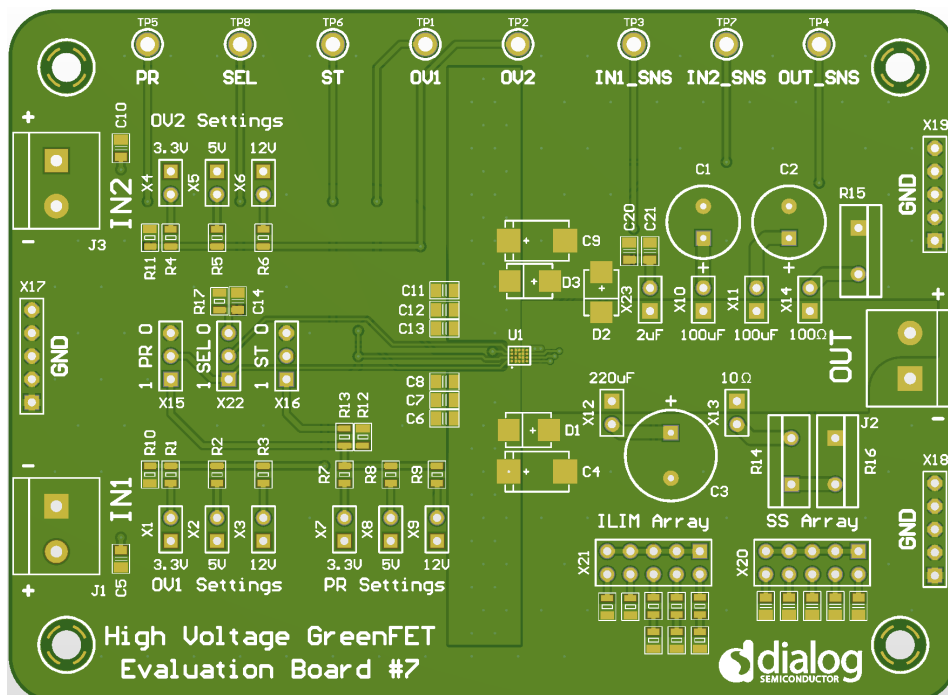

Figure 28. SLG59H1401C Evaluation Board
1. Since the IN[1,2] and OUT pins dissipate most of the heat generated during high-load current operation, it is highly recommended to make power traces as short, direct, and wide as possible. A good practice is to make power traces with an absolute minimum widths of 15 mils (0.381 mm) per Ampere. A representative layout, shown in Figure 28, illustrates proper techniques for heat to transfer as efficiently as possible out of the device;
A High Voltage GreenFET Evaluation Board for SLG59H1401C is designed according to the statements above and is illustrated on Figure 28. Please note that evaluation board has IN[1,2]_Sense and OUT_Sense pads. They cannot carry high currents and dedicated only for $RDS_{ON[1,2]}$ evaluation.